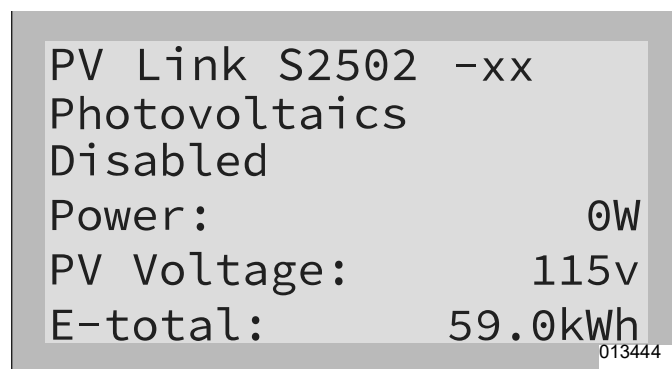
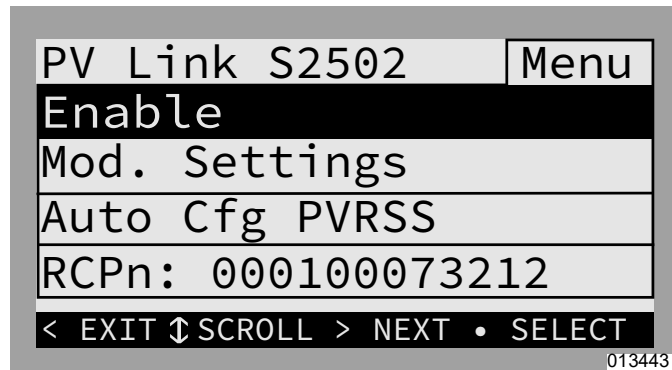
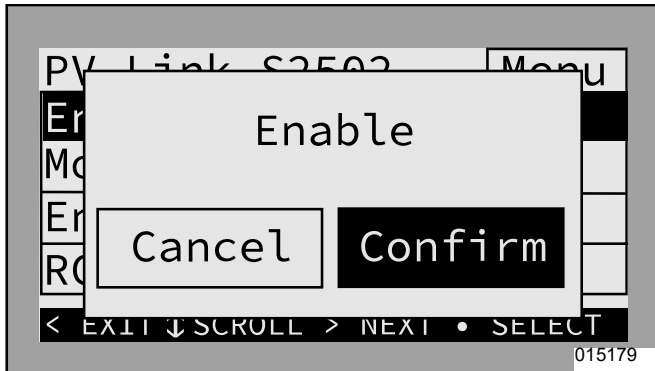

Figure 7-10. Enabling REbus Devices (1 of 3)
Figure 7-11. Enabling REbus Devices (2 of 3)
Figure 7-12. Enabling REbus Devices (3 of 3)
10. Once the inverter is enabled and in state, “grid connected,” scroll right and enable each PV Link and PWRcell Battery, repeating the process just performed for the inverter. See Figure 7-10, Figure 7-11, and Figure 7-12. Also see Configure REbus Devices and Enable REbus Devices for more information.